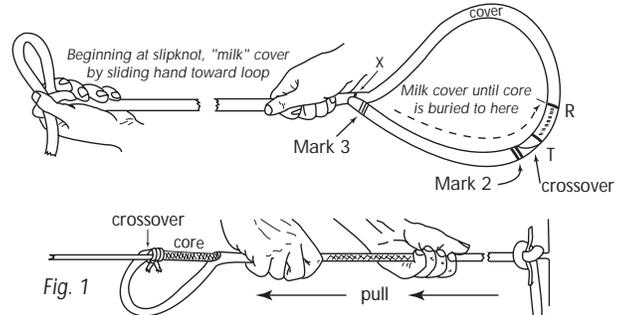

Fig. 1
A. Anchor loop of slipknot by tying it to stationary object before starting to bury. You can then use both hands and weight of body go more easily bury cover over core and crossover (See Fig. 1 & 2).